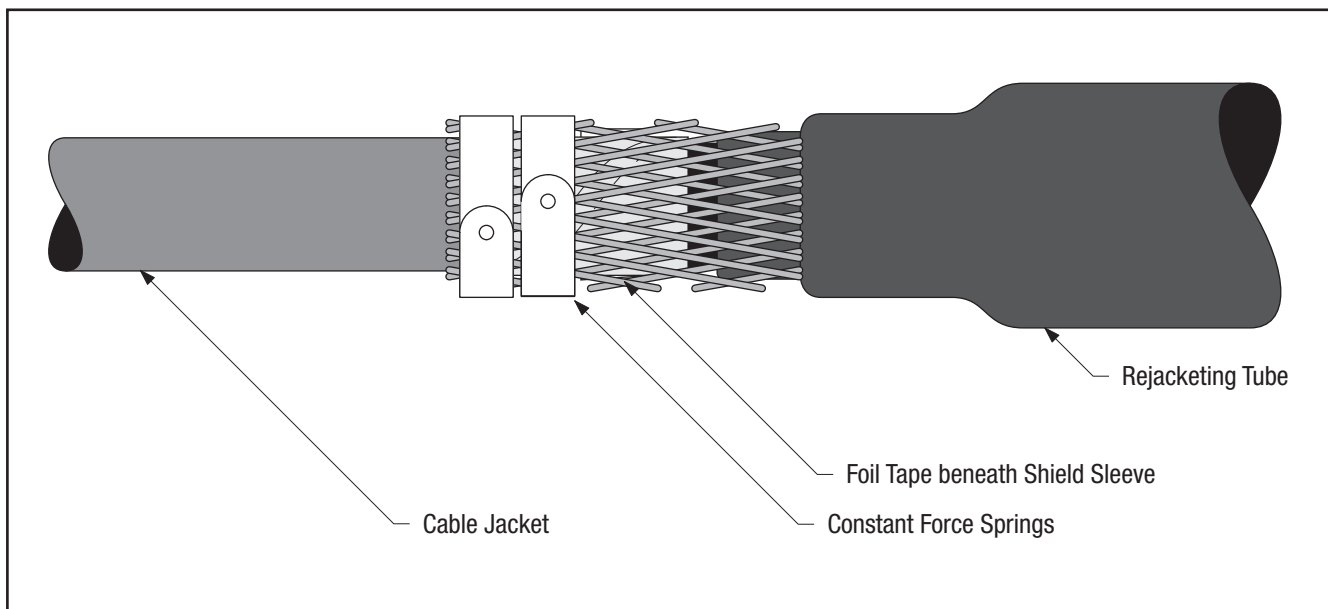

Figure 14
- 5.2 Hand-tighten the shield sleeve outward and secure it to the wires, tape or LC shields on either side of the splice using two constant force springs on each end between the jacket edge and the copper foil tape as shown (*Figure 14*).
5.3 If shield sleeve extends beyond jacket edge, it may be interwoven with the constant force springs. Cinch (tighten) the spring after wrapping the final winding (*Figure 14*).